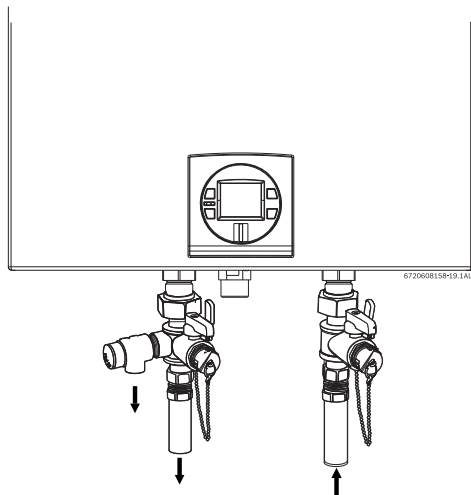

Fig. 38 Plumbing Connections (with shutoff valves) and Pressure Relief Valve
- ▶ Full port shutoff valves should be installed on both the cold water supply and hot water outlet lines to facilitate servicing the heater (see Fig. 38).
The location of the PRV must be readily accessible for servicing or replacement, and be mounted as close to the water heater as possible. See Fig. 38. To install the PRV, a suitable fitting connected to an extension on a "T" fitting can be sweated to the hot water line.